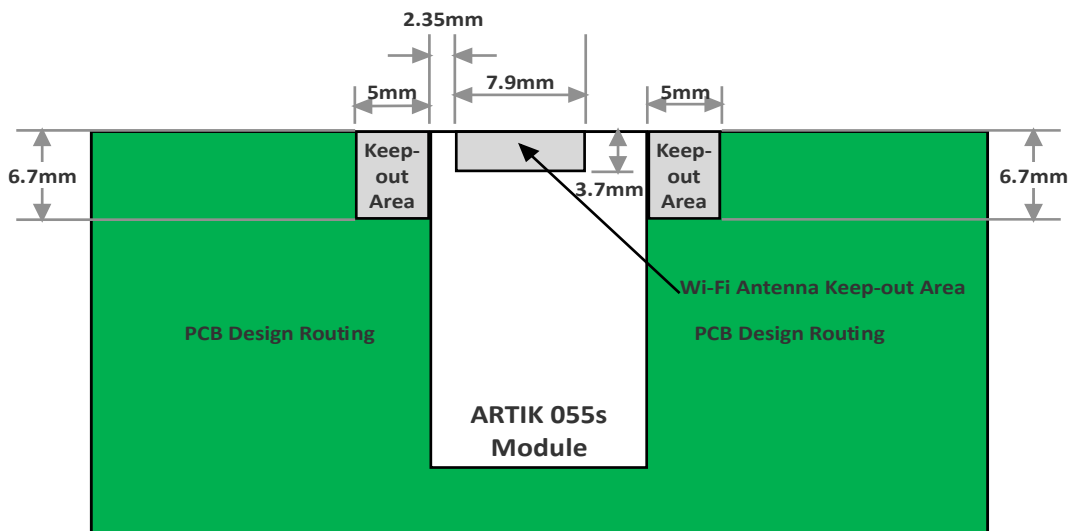

Figure 6. Module Placement Restrictions
- To avoid severe Wi-Fi radiation loss, Samsung Semiconductor, Inc. strongly recommends allocating a “No PCB Routing or Power Planes” metal-free area of at least 7.9×3.7mm in the Wi-Fi Antenna keep-out area underneath the module, and component keep-out areas of 5×6.7mm (all layers) next to the on-module antenna, as shown in Figure 6.